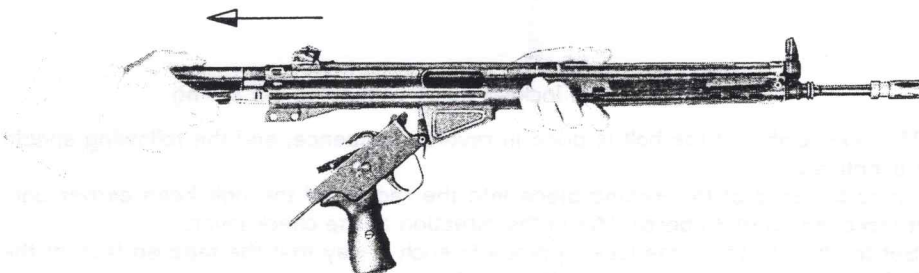

Fig. 64: Remove the bolt
- Draw bolt rearward with the loading lever and catch the bolt that slides out (Fig. 64).